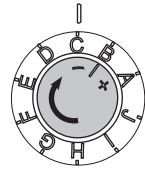

Figure 14
- a. With both blades scoring, but not penetrating the central tube, rotate the fine adjustment wheels clockwise to increase the blade depths (Figure 14).